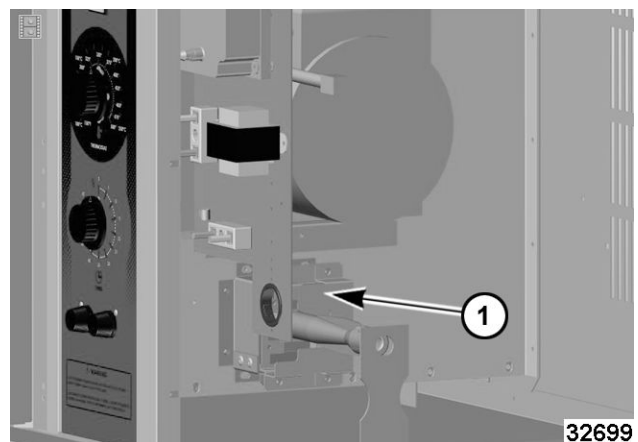

Fig. 20
4. Remove burner assembly (1, Fig. 20) mounting screws.